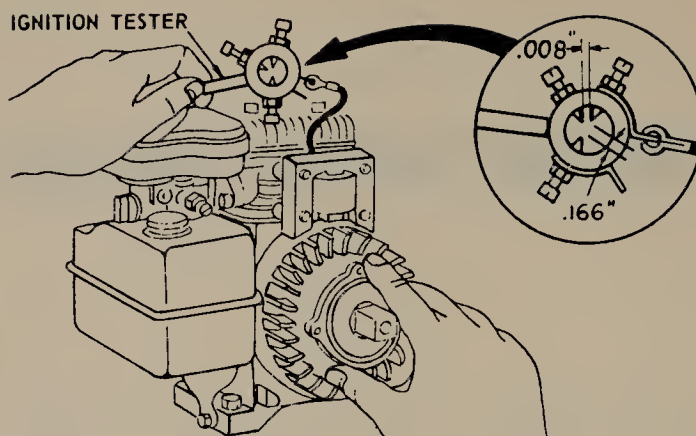

FIGURE 14.1 Checking spark with special spark-gap tester. (Briggs and Stratton Corporation.)
14.2 Magneto Trouble Causes. In Chap. 10, we described procedures for tracking down the causes of such troubles as failure to start, lack of power, engine surging, engine losing power as it runs, and irregular firing. You will recall how we explained the spark test—seeing whether or not a spark occurs at the spark plug when the engine is cranked. A refinement of this test utilizes a spark tester, as shown in Fig. 14.1. To use this tester, remove the spark plug and connect the high-tension lead from the magneto to the tester, as shown. Ground the electrode of the tester that gives the 0.166 in. gap, as shown, and spin the flywheel. If a good spark jumps the gap, you can assume that the ignition system is functioning normally.
If the engine runs but misses, you can check out the ignition system by inserting the tester, shown in Fig. 14.1, between the clip on the high-tension lead and the spark plug. Run the engine and watch carefully for the spark at the tester gap. If the spark is not regular and steady, you can assume that there is trouble in the ignition system; the points, wiring, and stator coils should be checked out.